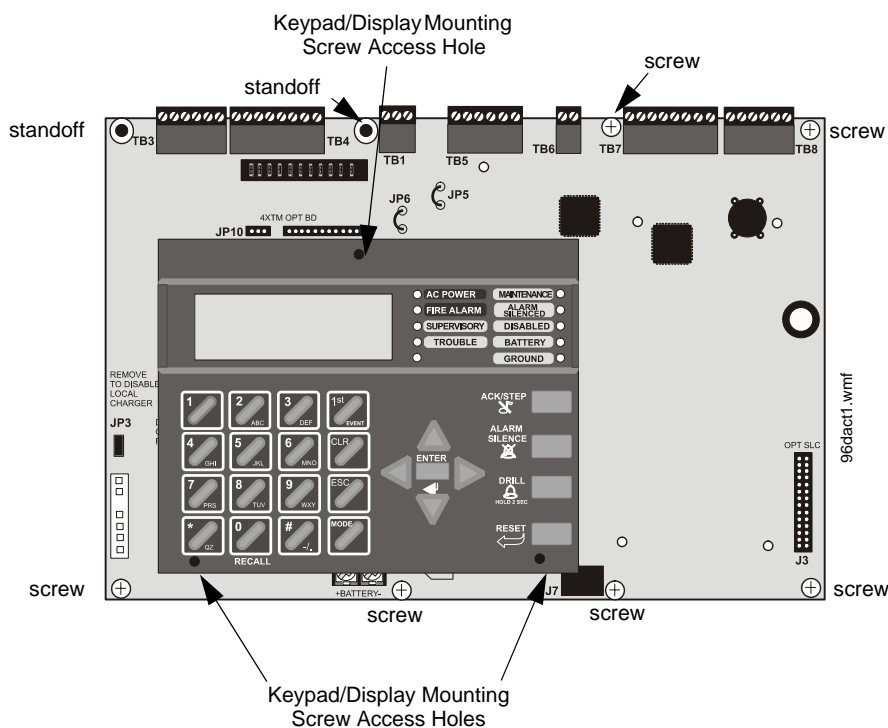

Figure 2.10 Keypad/Display Removal
2. Remove all main circuit board mounting screws (6 locations) and the 4XTMF module standoffs (2 locations), unplug the power supply cable from J1 and lift the main circuit board assembly off the chassis (refer to Figure 2.10)